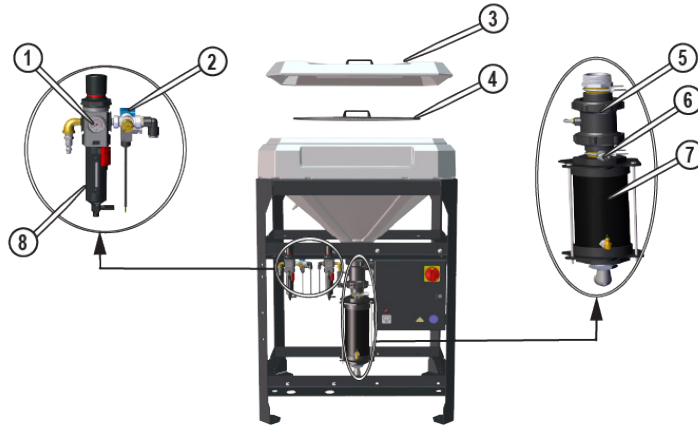

Figure 2
1. Examine the **air regulators** [1] connections for air leaks (Figure 2).
2. Examine the **air solenoid valves** [2] connector, solenoid, spring, valve body, or manual spring for damage (Figure 2).
3. Do a puncture check on the **lid** [3] for holes (Figure 2).
4. Make sure the **mesh screen** [4] material is not separated (Figure 2).
5. Examine the **pinch valve** [5] for air leaks (Figure 2).
6. Make sure the pressure pot **inline filter** [6] is not dirty or clogged (Figure 2).
7. Examine the **pressure pot** [7] for air leaks and sensor failure (Figure 2).
8. Examine the **regulator water bowl** [8] for liquid above the maximum line (Figure 2). Refer to Drain the Regulator Water Bowl.